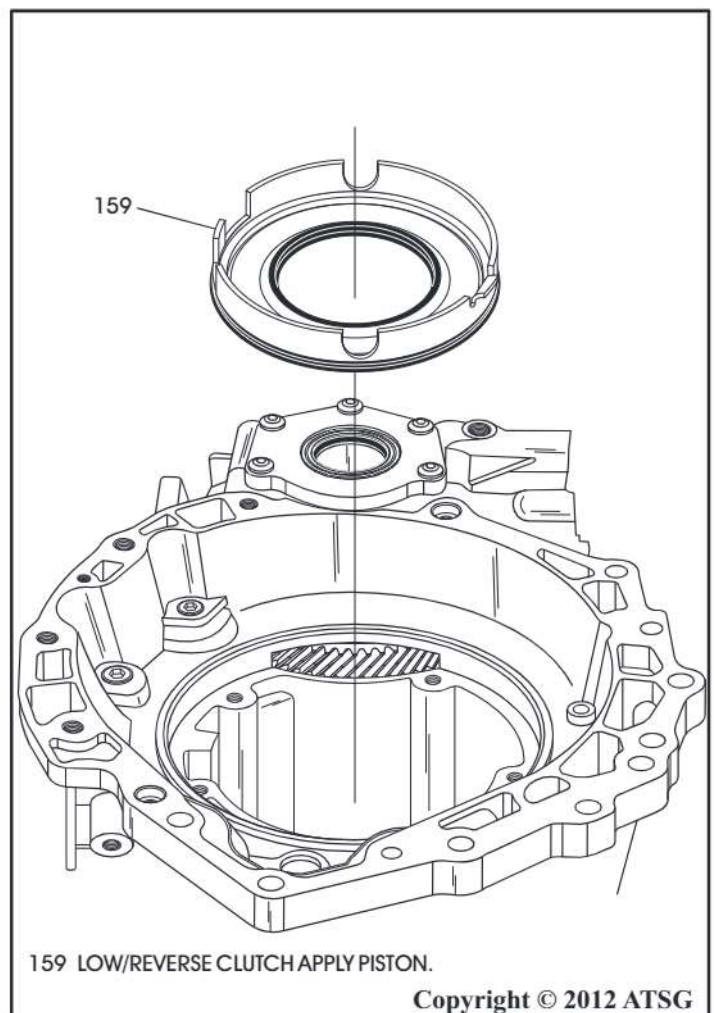

Figure 111
45. Install the **new** low/reverse clutch bonded piston, as shown in Figure 111, and ensure fully seated.